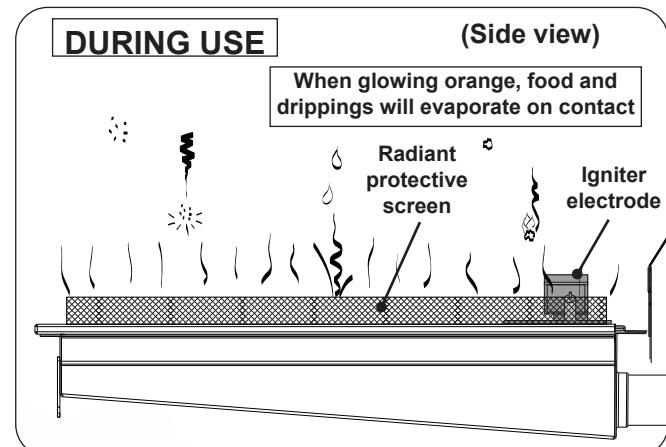

Fig. 39-3 Infrared burner - DURING USE
- **DO NOT** place food on the cooking grid until the infrared burner glows orange (Fig. 39-3). Drippings are heated and evaporate instead of sticking to and impairing burner function.